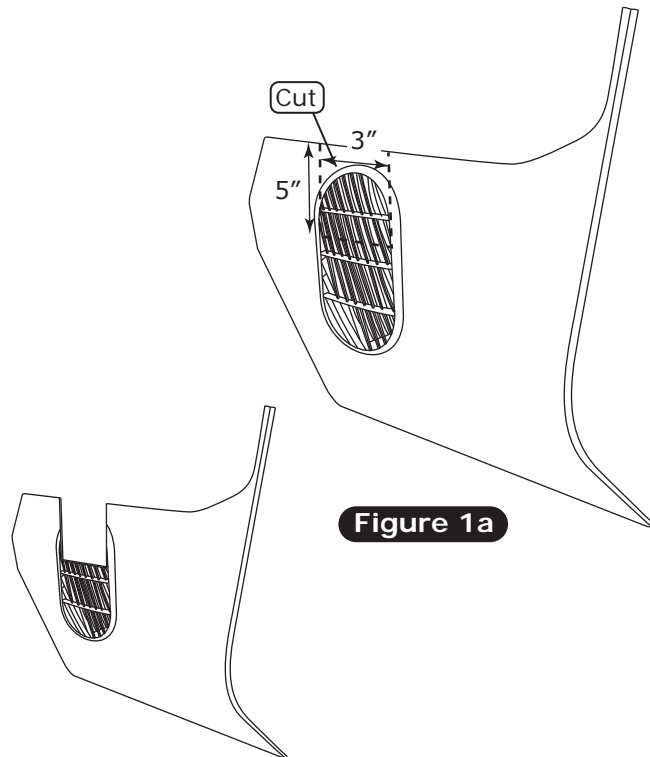

Figure 1a
4. Modify the passenger-side kick panel as shown in Figure 1a, below.